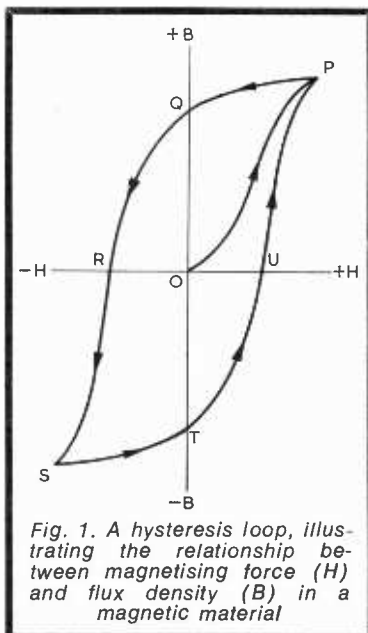

Fig. 1. A hysteresis loop, illustrating the relationship between magnetising force (H) and flux density (B) in a magnetic material
Fig. 1 illustrates graphically what occurs when a typical magnetic material undergoes one or more cycles of changing magnetising force. The horizontal axis in Fig. 1 corresponds to the magnetising force (designated H) which is applied to the magnetic material whilst the vertical axis denotes the resultant magnetic flux density (B) which then appears in the material. The term 'flux density' defines, rather more precisely, what we have previously referred to as 'magnetic field strength,' and it applies to the number of 'lines of magnetic flux' per unit of cross-sectional area appearing in the magnetic material.
The curve of Fig. 1 is known as the *hysteresis loop* for the magnetic material, the word 'hysteresis' applying to any condition where there is a lag, or delay, in an end-result subsequent to a change of force. The values of remanence and coercivity depend upon the properties of the magnetic material itself. Both will be lower in a 'soft' magnetic material than in a 'hard' magnetic material.
The curve of Fig. 1 applies to a static piece of magnetic material which is taken through the cycle of magnetisation. The situation which exists when the magnetising force is applied to the magnetic coating of
netising force in the +H direction in Figs. 2(a), (b) and (c), and these should be examined with respect to the curve illustrated in Fig. 1. In Fig. 2(a) there is a strong magnetising force at the moment when the tape is at the record head gap, this causing the resultant flux density in the tape oxide to reach a level corresponding to point P. Point P here is the same as the similarly identified point in Fig. 1. After leaving the head no further magnetising force is applied to the tape, whereupon the flux density in its coating drops to the level Q, which is the same as point Q in Fig. 1. In Fig. 2(b) a lower magnetising force is applied at the moment when the tape passes the head and the flux density in the tape coating rises to the lower value, W. After leaving the tape we have a similar drop in flux density to the remanence value, this occurring at point X. Fig. 2(c) shows the effect for an even lower magnetising force, the flux density rising to Y, then dropping to the remanence value at Z.
Since, in Figs. 2(a), (b) and (c) we have only considered values of H which lie to the right of the zero point of the graph, these diagrams illustrate the situation which exists when the magnetising force is in one direction only. The BH curve for the tape will trace out a similarly shaped initial line for values of H to the left of the zero point as well, whereupon we can next draw a complete BH curve for the tape, during magnetisation, in the manner shown in Fig. 3(a). The curve to the left of the zero point is merely line OP of Fig. 1 redrawn for opposite polarities of B and H. Fig. 3(b) completes the picture, by adding drops to remanence value subsequent to the application of different values of H.
taining as it passes the head. After this, since it is then physically removed from the head, no further external magnetising force is applied to it. The resultant BH curve for the coating will then follow the initial line OP of Fig. 1 during magnetisation, this being followed by a drop to the remanence value after removal from the head.
tape to a high level before it is drawn past the record head. This magnetisation can be carried out by passing the tape over one pole of a permanent magnet. The record head then has a d.c. bias which causes partial demagnetisation of the tape, the superimposed signal voltage controlling the level of demagnetisation which takes place. This method of working does not involve the transfer characteristic shown in Figs. 4(c) and 5. Instead it may be assumed that the tape, when it reaches the record head, is initially at point Q of the BH curve of Fig. 1, whereupon the demagnetisation process draws the value of B down along the curve Q, R and S in that diagram. After leaving the record head the flux then takes up a value
of remanence, this last process not seriously adding to the degree of distortion. If Fig. 1 is examined it will be noted that the line Q, R and S includes a near-linear section which is significantly longer than the near-linear section of the initial line OP (which is, of course, effectively repeated in the transfer characteristic of Figs. 4(c) and 5) with the result that it becomes possible to record at higher amplitude than occurs when using d.c. bias with demagnetised tape. However, practical performance still tends to be poor by modern standards, and signal-to-noise ratio is at a relatively low value.